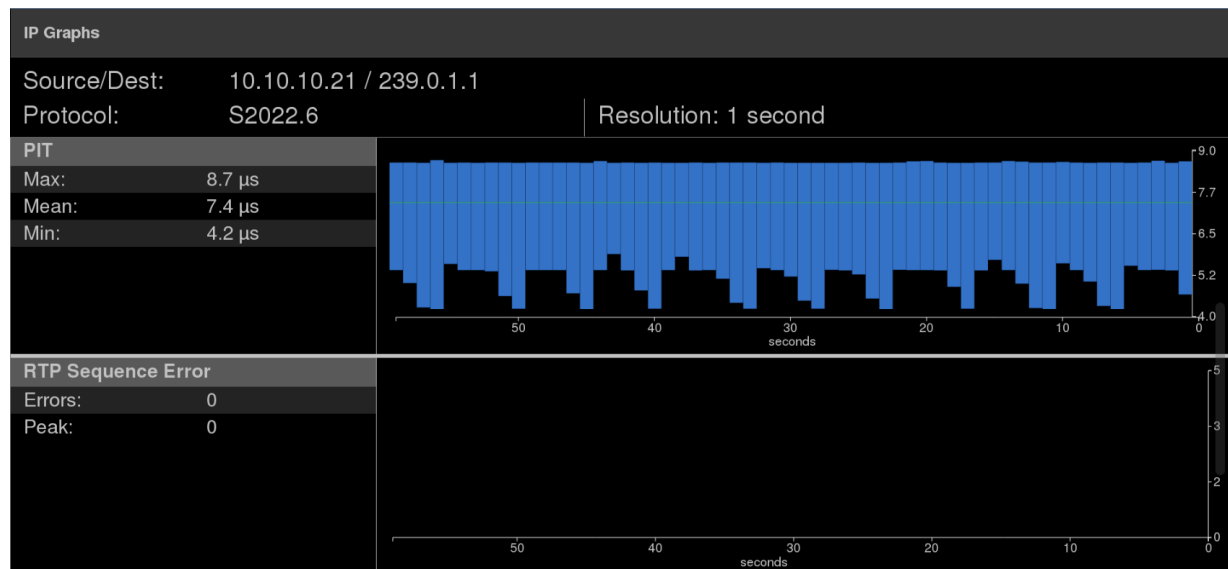

Figure 45: IP Graphs application – PIT and RTP Sequence Error graphs
**RTP Sequence Error graph** The RTP Sequence Error graph shows the RTP sequence information and reports if any packet is received out of order. (See Figure 45.)